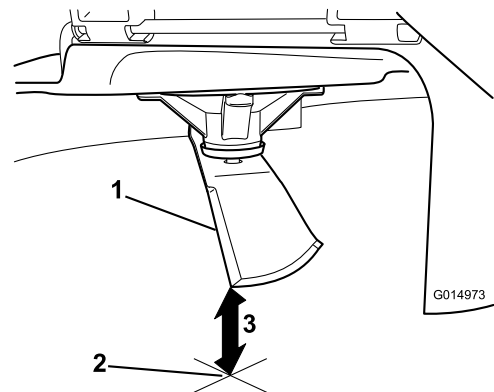

Figure 95
5. Measure from the tip of the blade to the flat surface (Figure 95).